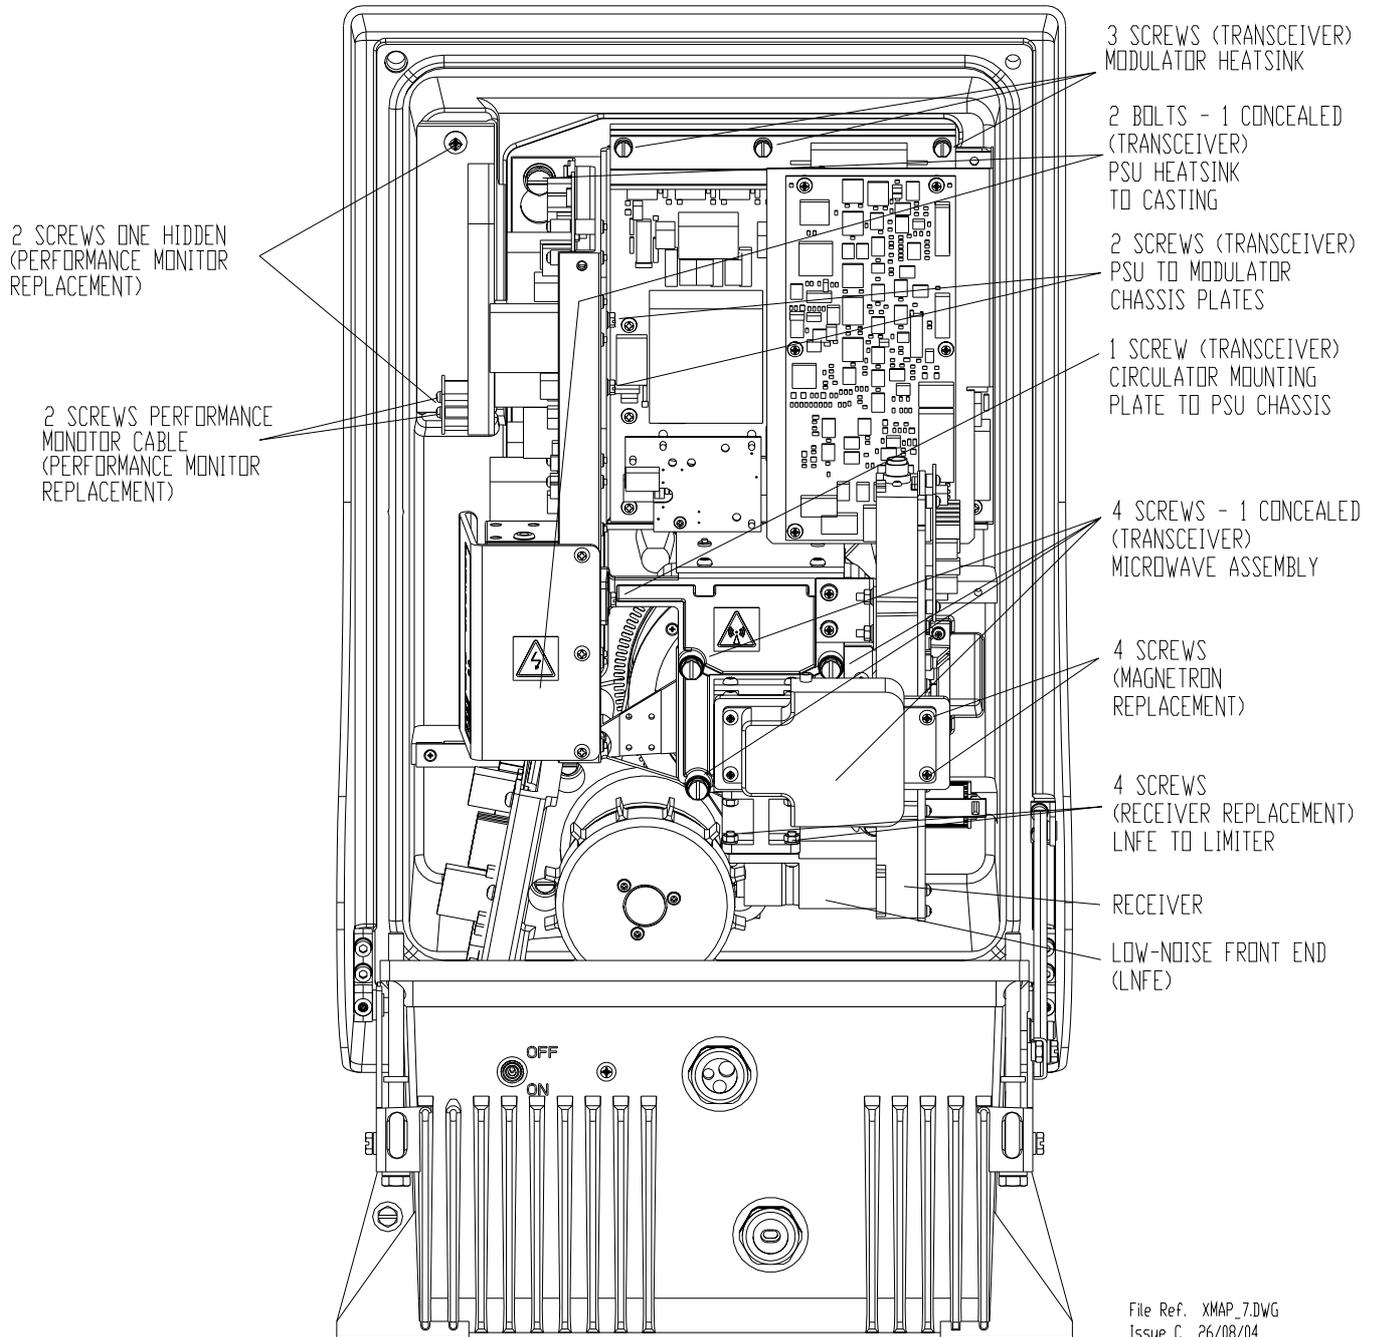
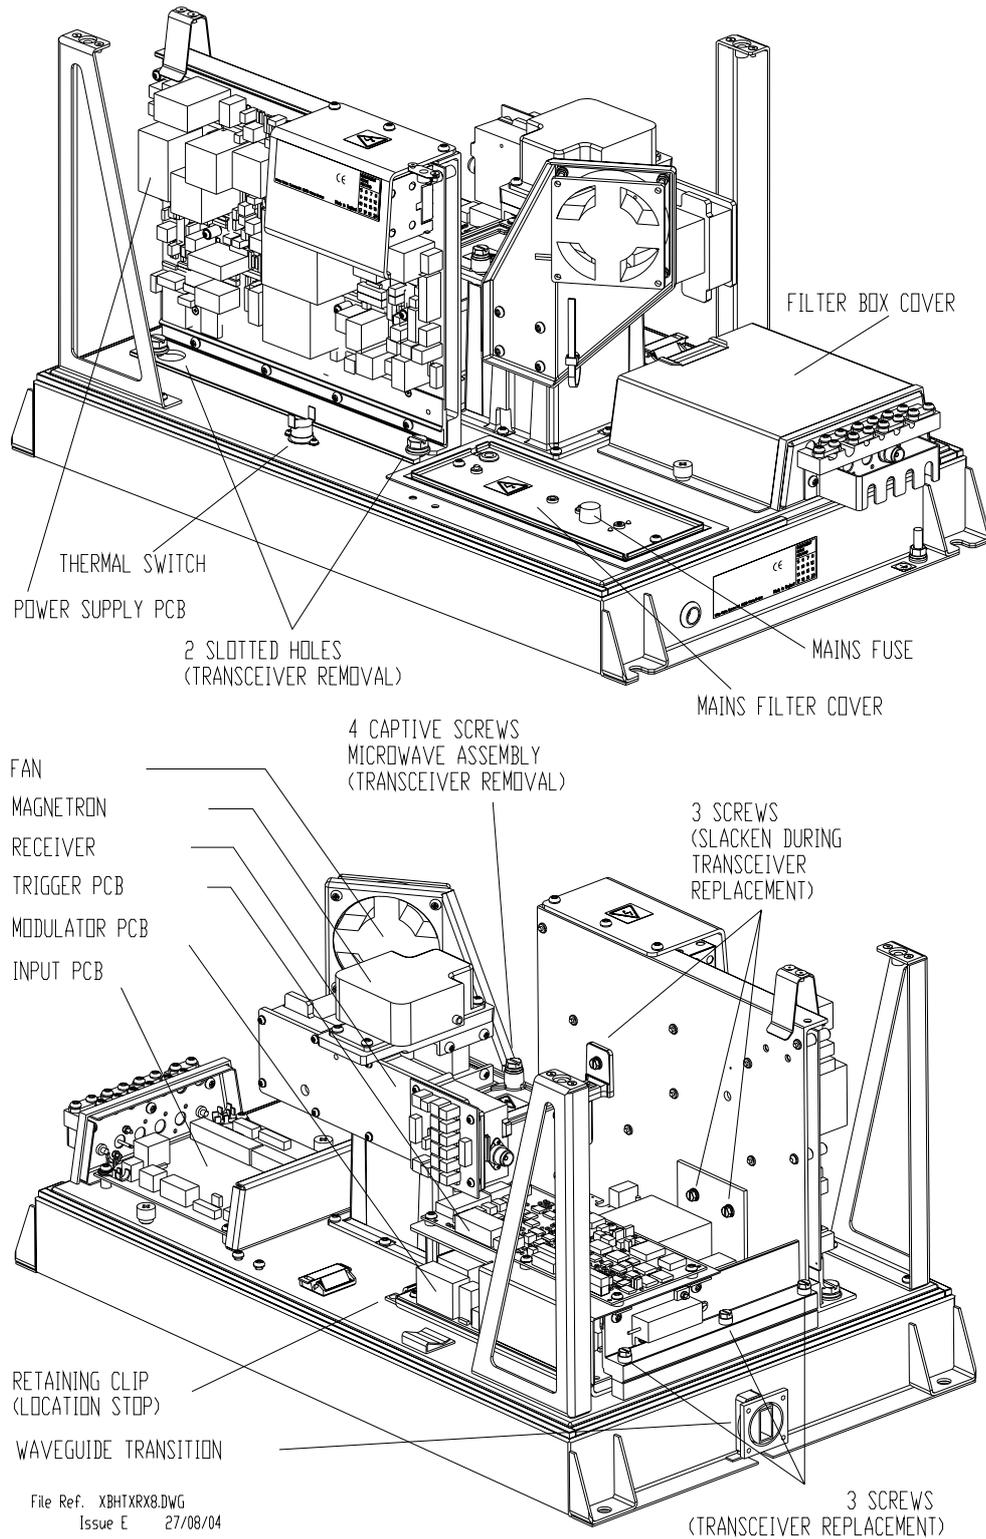
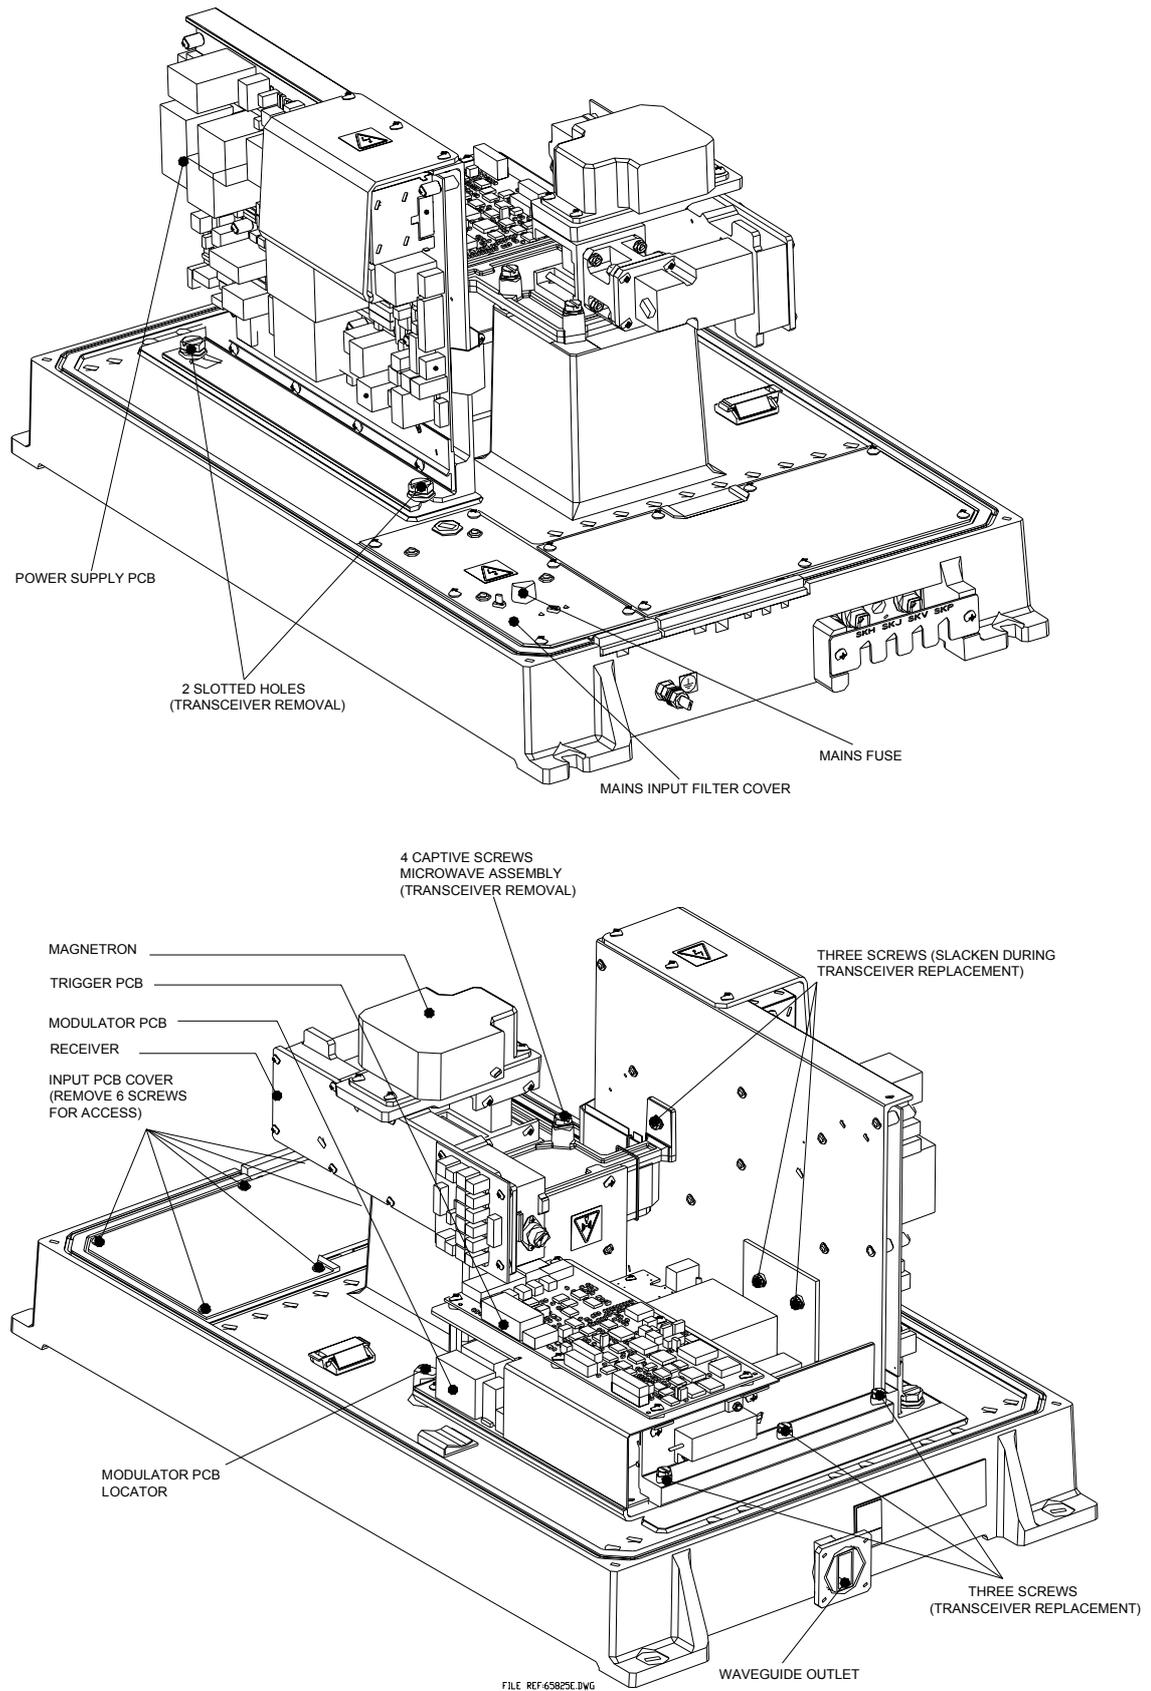

Figure 6.32. X-Band Masthead Turning Unit – Fitment of Main Assemblies
Figure 6.37. Bulkhead Transceiver – View with Cover Removed (earlier version)
Figure 6.38. Bulkhead Transceiver – View with Cover Removed
3. Refer to Figure 6.32.
6. Refer to Figure 6.32 for location of the screws securing the Low Noise Front End (LNFE) to the Limiter.
3. Refer to Figure 6.32, Figure 6.37 and Figure 6.38.
7. Refer to Figure 6.32 for the location of screws securing the Low Noise Front End (LNFE) to the Limiter.
3. Remove the two retaining screws that hold the Performance Monitor to the upper casting (see Figure 6.32) and withdraw the unit.